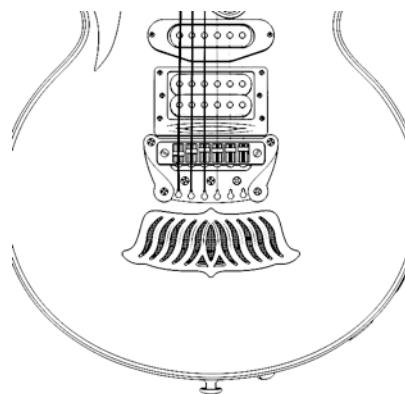

Fig. 16
- acoustic horn system with portable dynamic loudspeaker and two acoustic horn outputs (Fig.16). Output from the front part of the loudspeaker is located in the frame of bridge pickup (Fig.1, Pos. 18, Fig16), output from the rear part of the loudspeaker is covered with onlay (Fig.1 Pos.16, Fig 16);